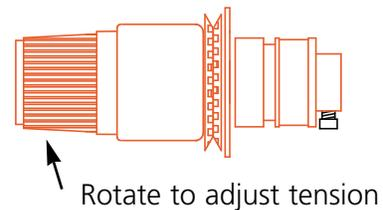

Figure 2-4
2. Route the thread down to the main tensioner wheel (see Figure 2-4).